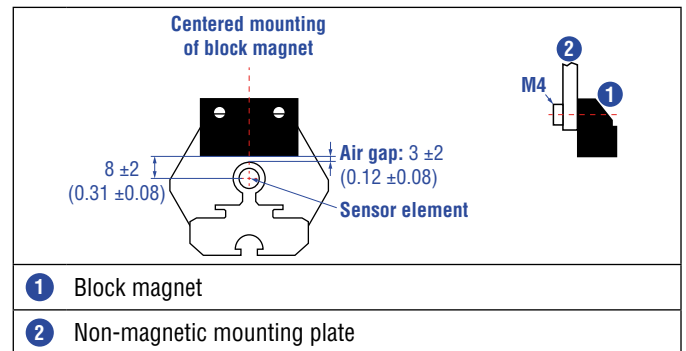
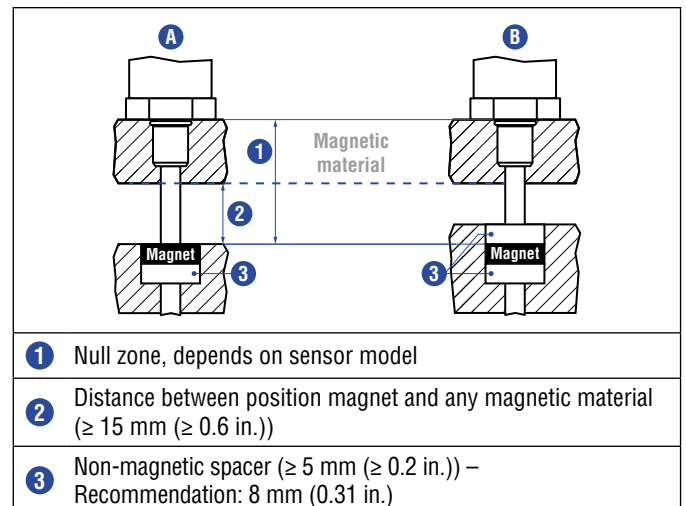

Fig. 31: Mounting of block magnet (part no. 403 448)
Fig. 32: Installation with magnetic material
- Minimum distance between position magnet and any magnetic material has to be 15 mm (0.6 in.) (Fig. 32)
- If no other option exists and magnetic material is used, observe the specified dimensions (Fig. 32)
- The maximum permissible air gap must not be exceeded (Fig. 31/Fig. 32). Take care to mount the primary sensor axis in parallel to the magnet path in order to avoid damage to the carriage, magnet and sensor rod/sensor profile.
When using magnetic material the dimensions of Fig. 32 must be observed.